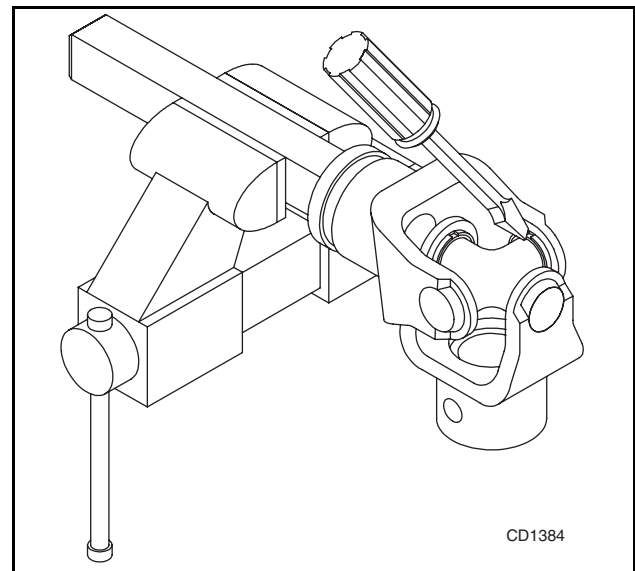

Figure 14
1. Remove snap rings from inside of yokes in four locations as shown in Figure 14.